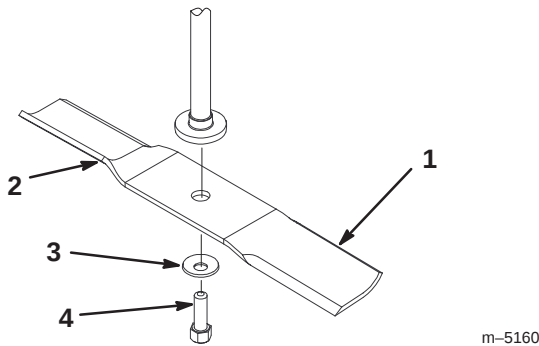
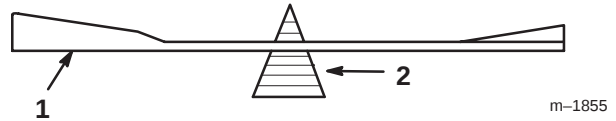

Figure 26
Figure 28
Hold the blade end using a rag or thickly-padded glove. Remove the blade bolt, curved washer, and blade from the spindle shaft (Fig. 26).
2. Check the balance of the blade by putting it on a blade balancer (Fig. 28). If the blade stays in a horizontal position, the blade is balanced and can be used. If the blade is not balanced, file some metal off the end of the sail area only (Fig. 26). Repeat this procedure until the blade is balanced.
1. Install the blade onto the spindle shaft (Fig. 26).
2. Install the curved washer (cupped side toward the blade) and blade bolt (Fig. 26). Torque the blade bolt to 35–65 ft.-lb. (47–88 N·m).